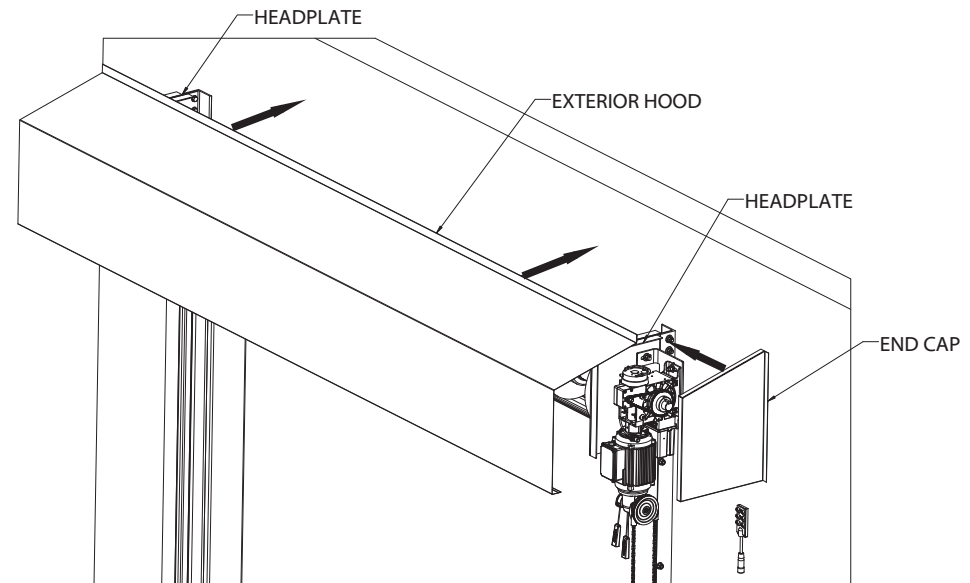

Fig 7-A
- B. Attach the motor cover end cap to the hood using rivets. End cap fits **inside** the hood with the mounting flange to the outside, **Fig. 7-A**. Install hood supports (if provided) at this time.
- D. Place the hood assembly **over** the headplates and motor/gearbox and **against** the wall, **Fig. 7-A**.